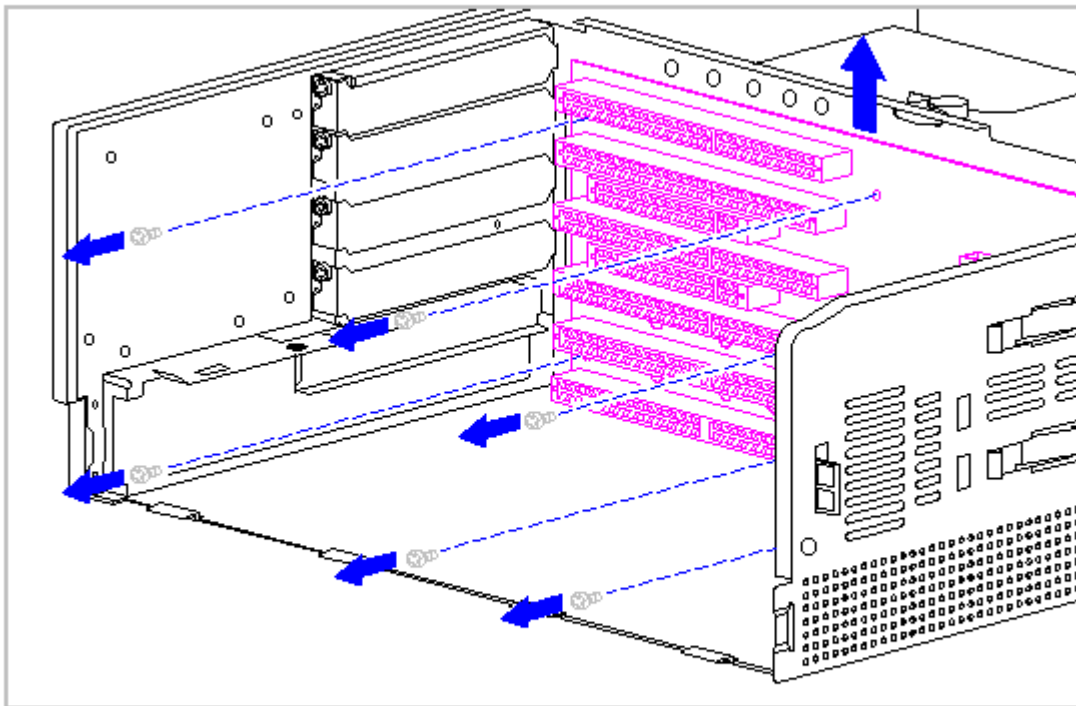

Figure 5-54. Removing the Backplane Board
9. Remove the six screws securing the backplane board to the center chassis panel (Figure 5-54) and remove the backplane board.